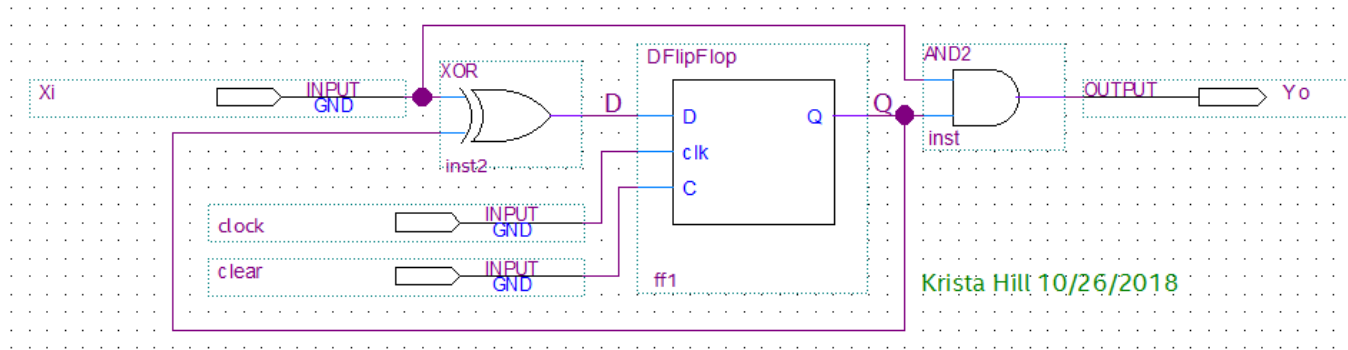
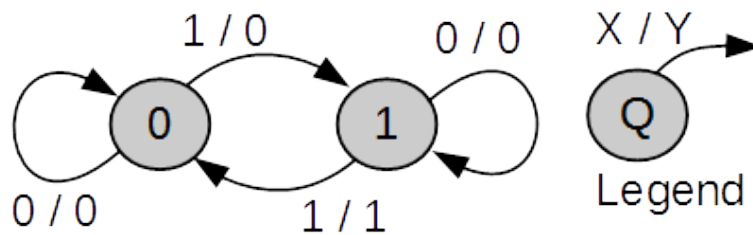

Figure 21: Example state machine
Figure 22: State diagram for example state machine
The schematic for a simple state machine is shown in Figure 21. Apart from clock and clear, the input is Xi and the output is Yo. The schematic is drawn using the techniques described in section 5. Any symbols you made will be in the project library. The flip-flop has been assigned the instance name 'ff1'. The next-state equation (1) and output equation (2) are produced by inspecting the schematic. The corresponding state diagram is shown in Figure 22.